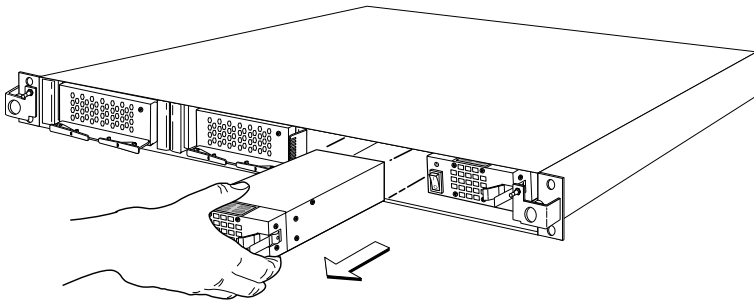

Figure 5-4. Removing the PSU
- 4 Pull the power supply from the RAID appliance. See Figure 5-4.